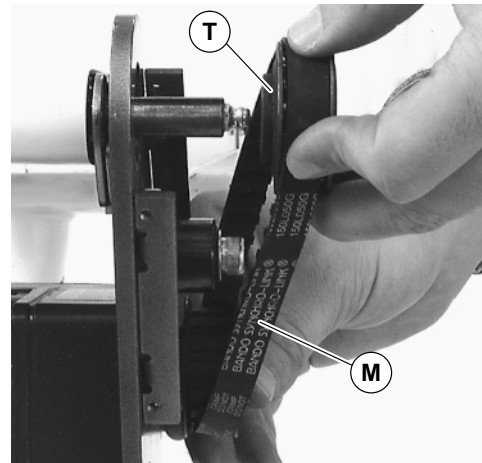

Figure 17
**NOTE:** If timing belt does not slide over pulley flange, loosen driven pulley set screws (T of Figure 17) and remove pulley with belt (M). For re-installation, see steps 5 through 8 on page 5.